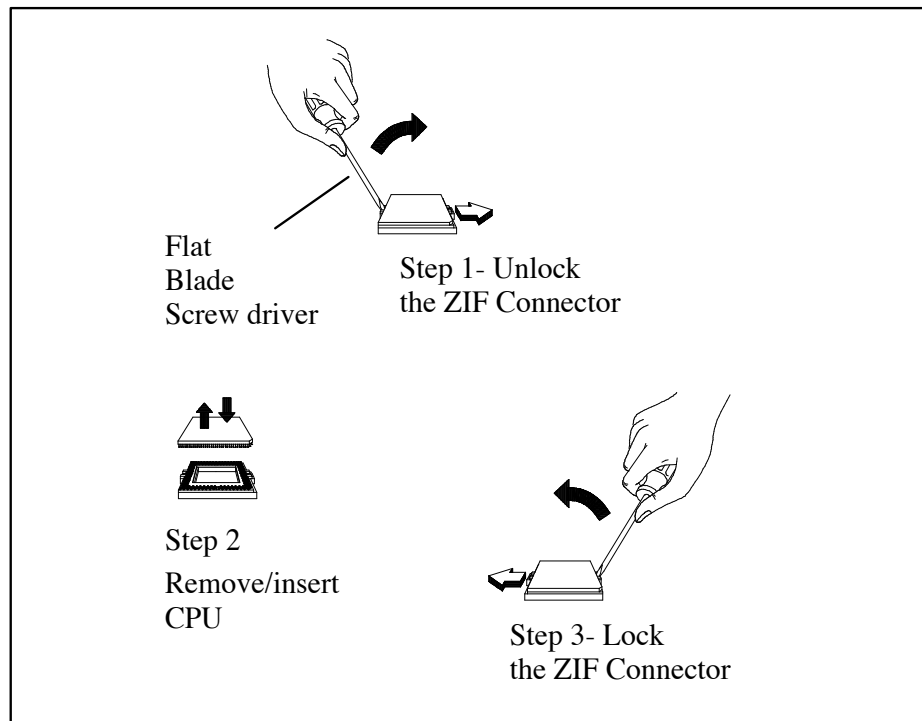

Figure 6-10 Removing/Replacing the CPU Chip
The CPU chip is installed in a Zero Insertion Force type socket to facilitate removal and replacement. To remove the CPU, refer to Figure 6-10 and use the following procedure:
2. Refer to Figure 6-10. Insert a flat-blade screwdriver into the opening at the left end of the socket labeled OPEN and push toward the other end of the socket.